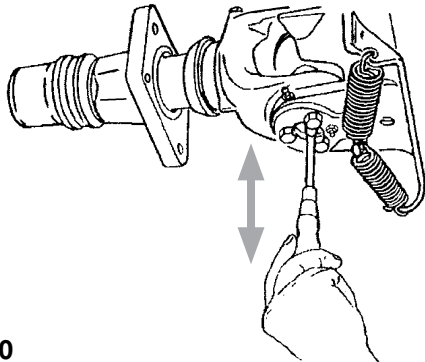

Fig. 10
- Check vertical play (see Fig. 10): vertical play in coupling **may not exceed max. 2 mm.**